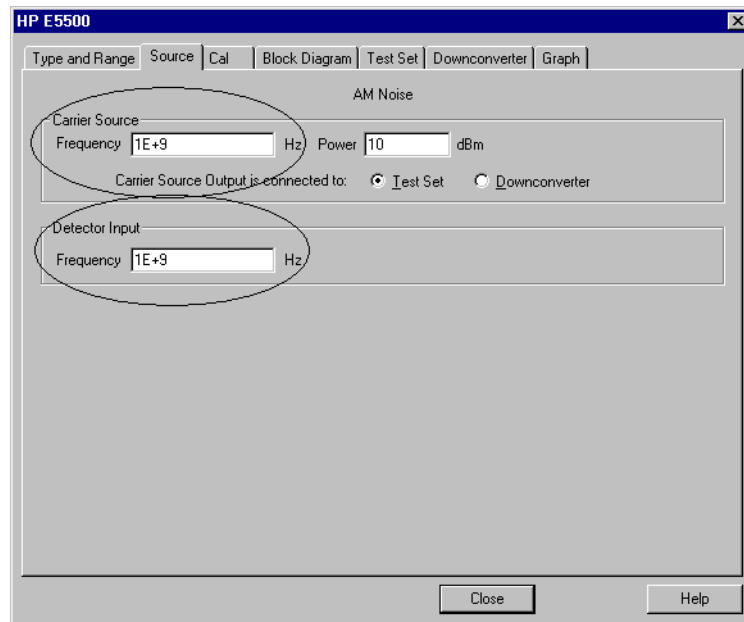

Figure 13-4 Enter Frequencies in Source Tab
- 8 Enter the carrier (center) frequency of your UUT. Enter the same frequency for the detector input frequency. See Figure 13-4.